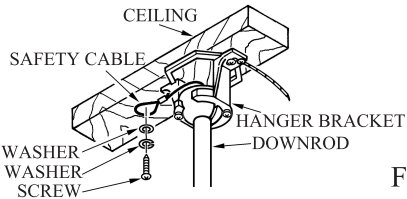

FIG.7
3. Install the safety cable into the building structure. (see Fig.7)